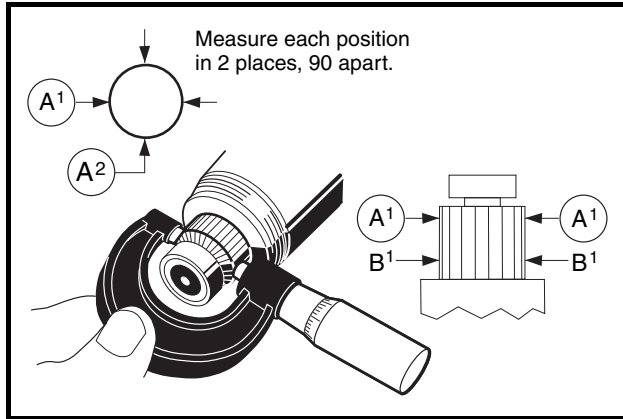

Figure 12-11 Inspect Commutator
2. Use a micrometer and measure the outside diameter at four points: two points 90° to each other to the outside end of the commutator (A1 and A2), and two points 90° to each other to the inside of the commutator (B1 and B2). If the commutator diameter is less than 1.535 inches (39 mm) at any of the four locations, replace the armature assembly and bearings (**Figure 12-11, Page 12-7**).